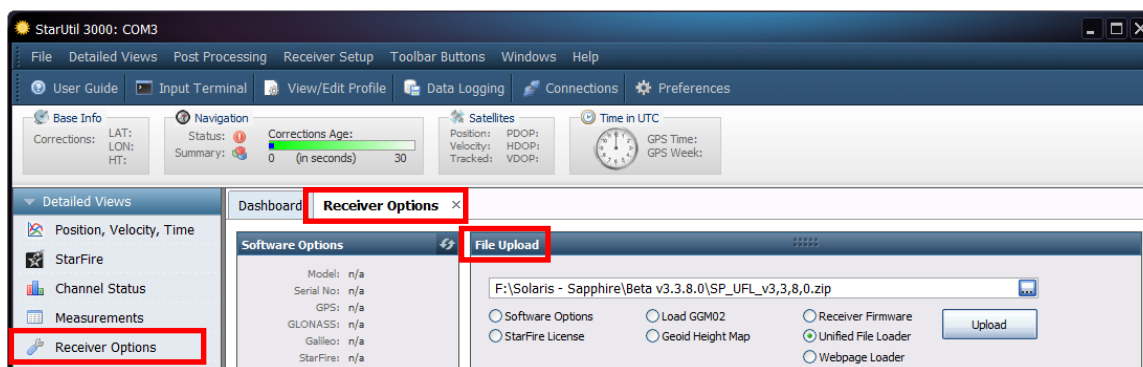

Figure 64: Receiver Options Tab
1. Click *Receiver Options* on the *Detailed Views* menu to open the *Receiver Options* tab (see Figure 64).